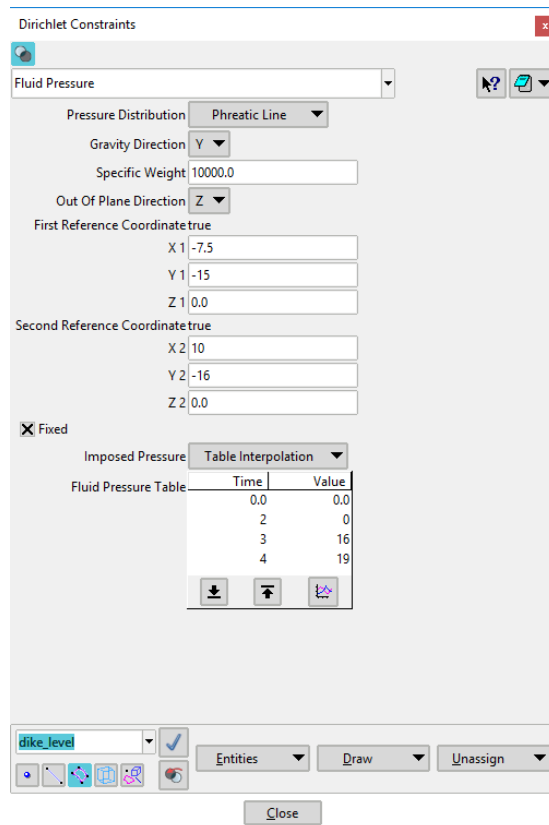

Figure 8.9: Dike water level tutorial 1
- 17 The water level in the dike is an inclined phreatic line. Click on *GeoMechanicsApplication* -> *Dirichlet Constraints*. Select *Fluid Pressure* from the top drop-down menu in the Dirichlet Constraints table and fill in the values as shown in Figure 8.9. Assign the condition to surface 8.